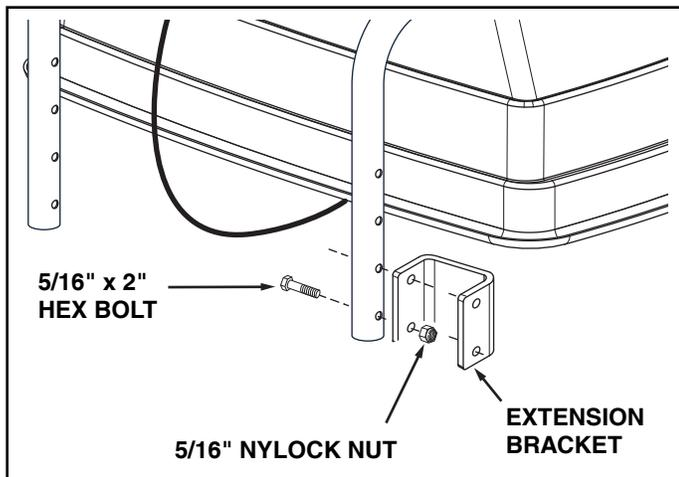

FIGURE 4
IMPORTANT: Before proceeding, determine if the mounting brackets, when attached directly to the spreader frame, will fit onto the vehicle rack. If they need to be farther apart, use the extension brackets in figure 4.
- Attach the extension brackets to the legs of the spreader frame. Use two 5/16" x 2" hex bolts and 5/16" nylock nuts per bracket. **Tighten.** See figure 4.